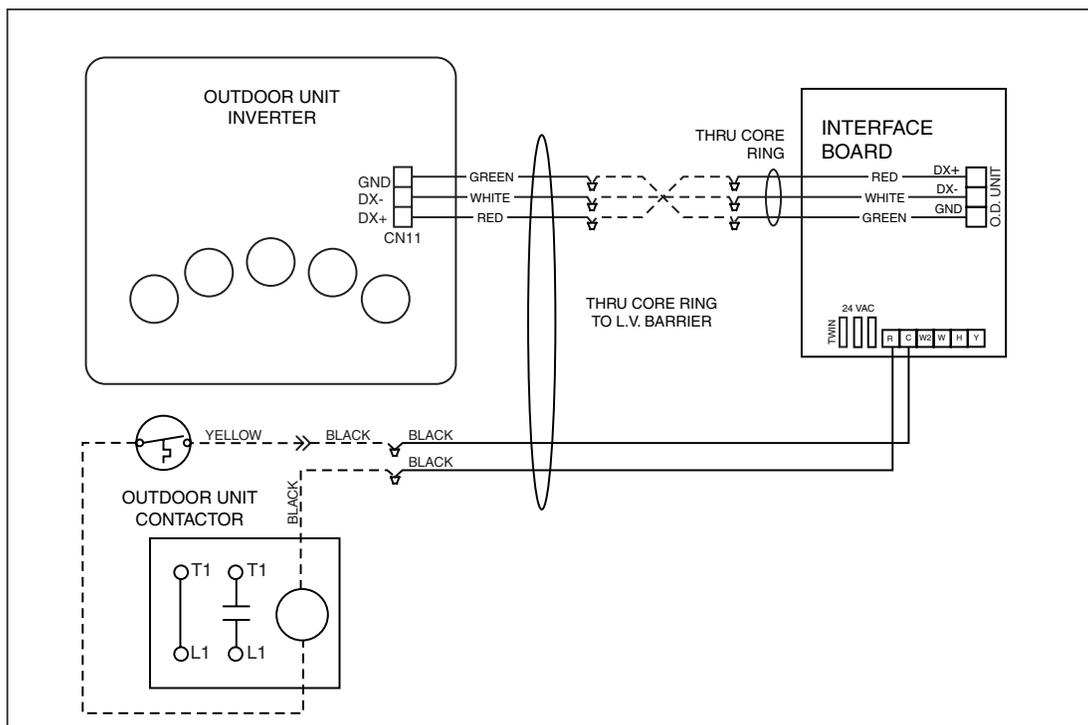

Figure 23. Outdoor cooling unit connection
2. Cooling controller thermostat wiring: (see Figure 23, 25 and cooling wiring diagram).
Once field wired for heating, Connect “R” and “C” black wires on the Interface control board to the two black wires from the outdoor unit contactor (see Figure 23). Also connect DX+ DX- and GRD terminals between the Interface board and the outdoor unit inverter with green, white and black wires as shown
in Figures 23 and 25. Cooling unit operates at the best optimized condition for the outdoor weather according to program in the thermostat controller.